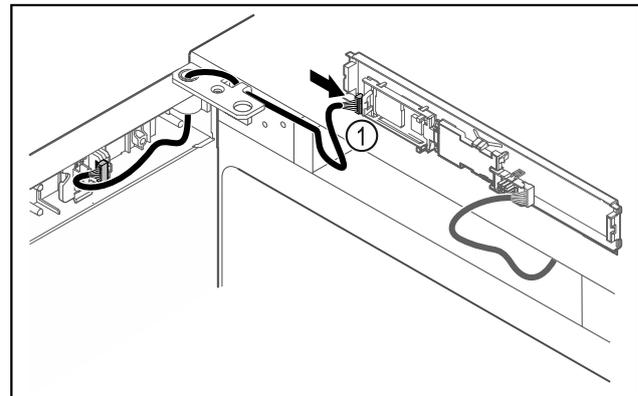

Fig. 38
- Connect the plug Fig. 38 (1) to the circuit board.